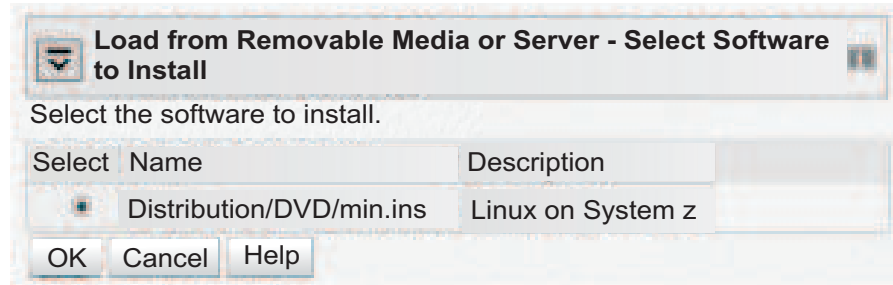

Figure 31. Select Software to Install panel
5. Click **Continue** to display the Select Software to Install panel (Figure 31 on page 107).